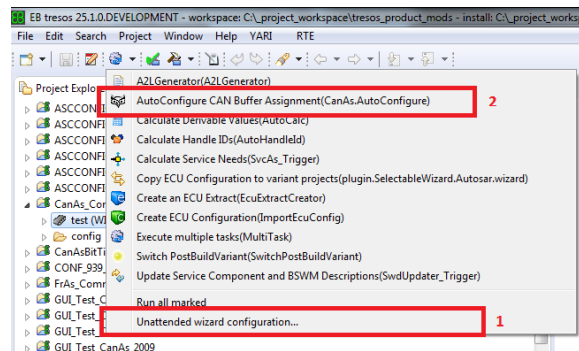

Figure 4.11. Starting the unattended wizard for the automatic CAN buffer assignment
4. Select the menu item **Autoconfigure CAN Buffer Assignment(CanAs.AutoConfigure)** as depicted in Figure 4.11, “Starting the unattended wizard for the automatic CAN buffer assignment” if you want to launch the automatic CAN buffer assignment for the selected project.